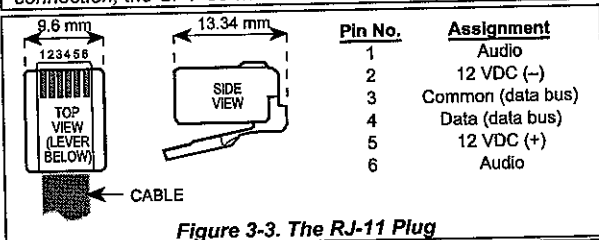

Figure 3-3. The RJ-11 Plug
SPT-56 can be wired to the SpiderAlert bus using the on-board telephone-type sockets. The 6-contact mating plugs are designated RJ-11 and are commonly called "TELCO plugs" (see Figure 3-3 for plug shape and pin assignments).
- Verify that the assignments and order of the cable leads match the assignments and order of terminals in the RJ-11 plug (see figure 3-3).